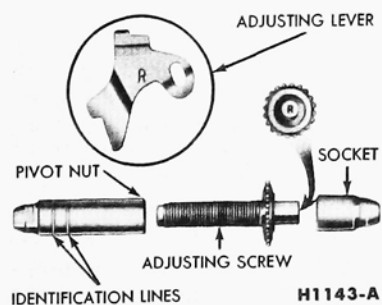

FIG. 6—Adjusting Screw and Lever Identification
Interchanging the brake shoe adjusting screw assemblies from one side of the truck to the other would cause the brake shoes to retract rather than expand each time the automatic adjusting mechanism operated. To prevent installation on the wrong side of the truck, the socket end of the adjusting screw is stamped with an R or L (Fig. 6). The adjusting pivot nuts can be distinguished by the number of lines machined around the body of the nut. Two lines indicate a right hand nut; one line indicates a left hand nut.
10. Hook the cable hook into the hole in the adjusting lever from the backing plate side. The adjusting levers are stamped with an R or L to indicate their installation on a right or left hand brake assembly (Fig. 6).